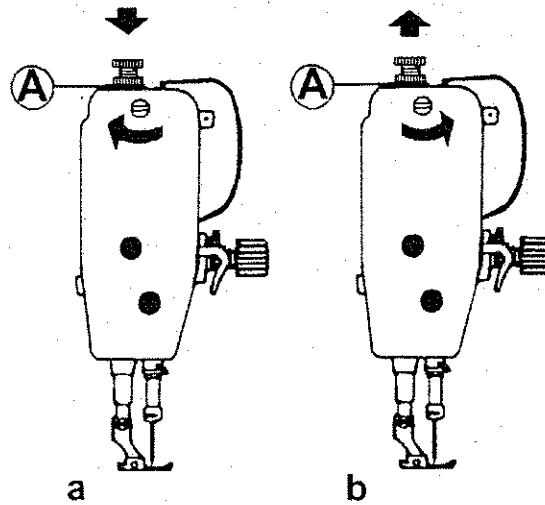

Fig. 11
Adjusting the pressure on the presser foot is dependent upon the thickness of the material being sewn. First, loosen lock nut (A). For heavy materials turn the pressure regulating thumb screw in the direction indicated in Fig. 11 (a) to increase the pressure. For light materials turn the thumb screw in the opposite direction as shown in Fig. 11 (b) to decrease the pressure. Once the appropriate pressure has been set tighten lock nut (A).